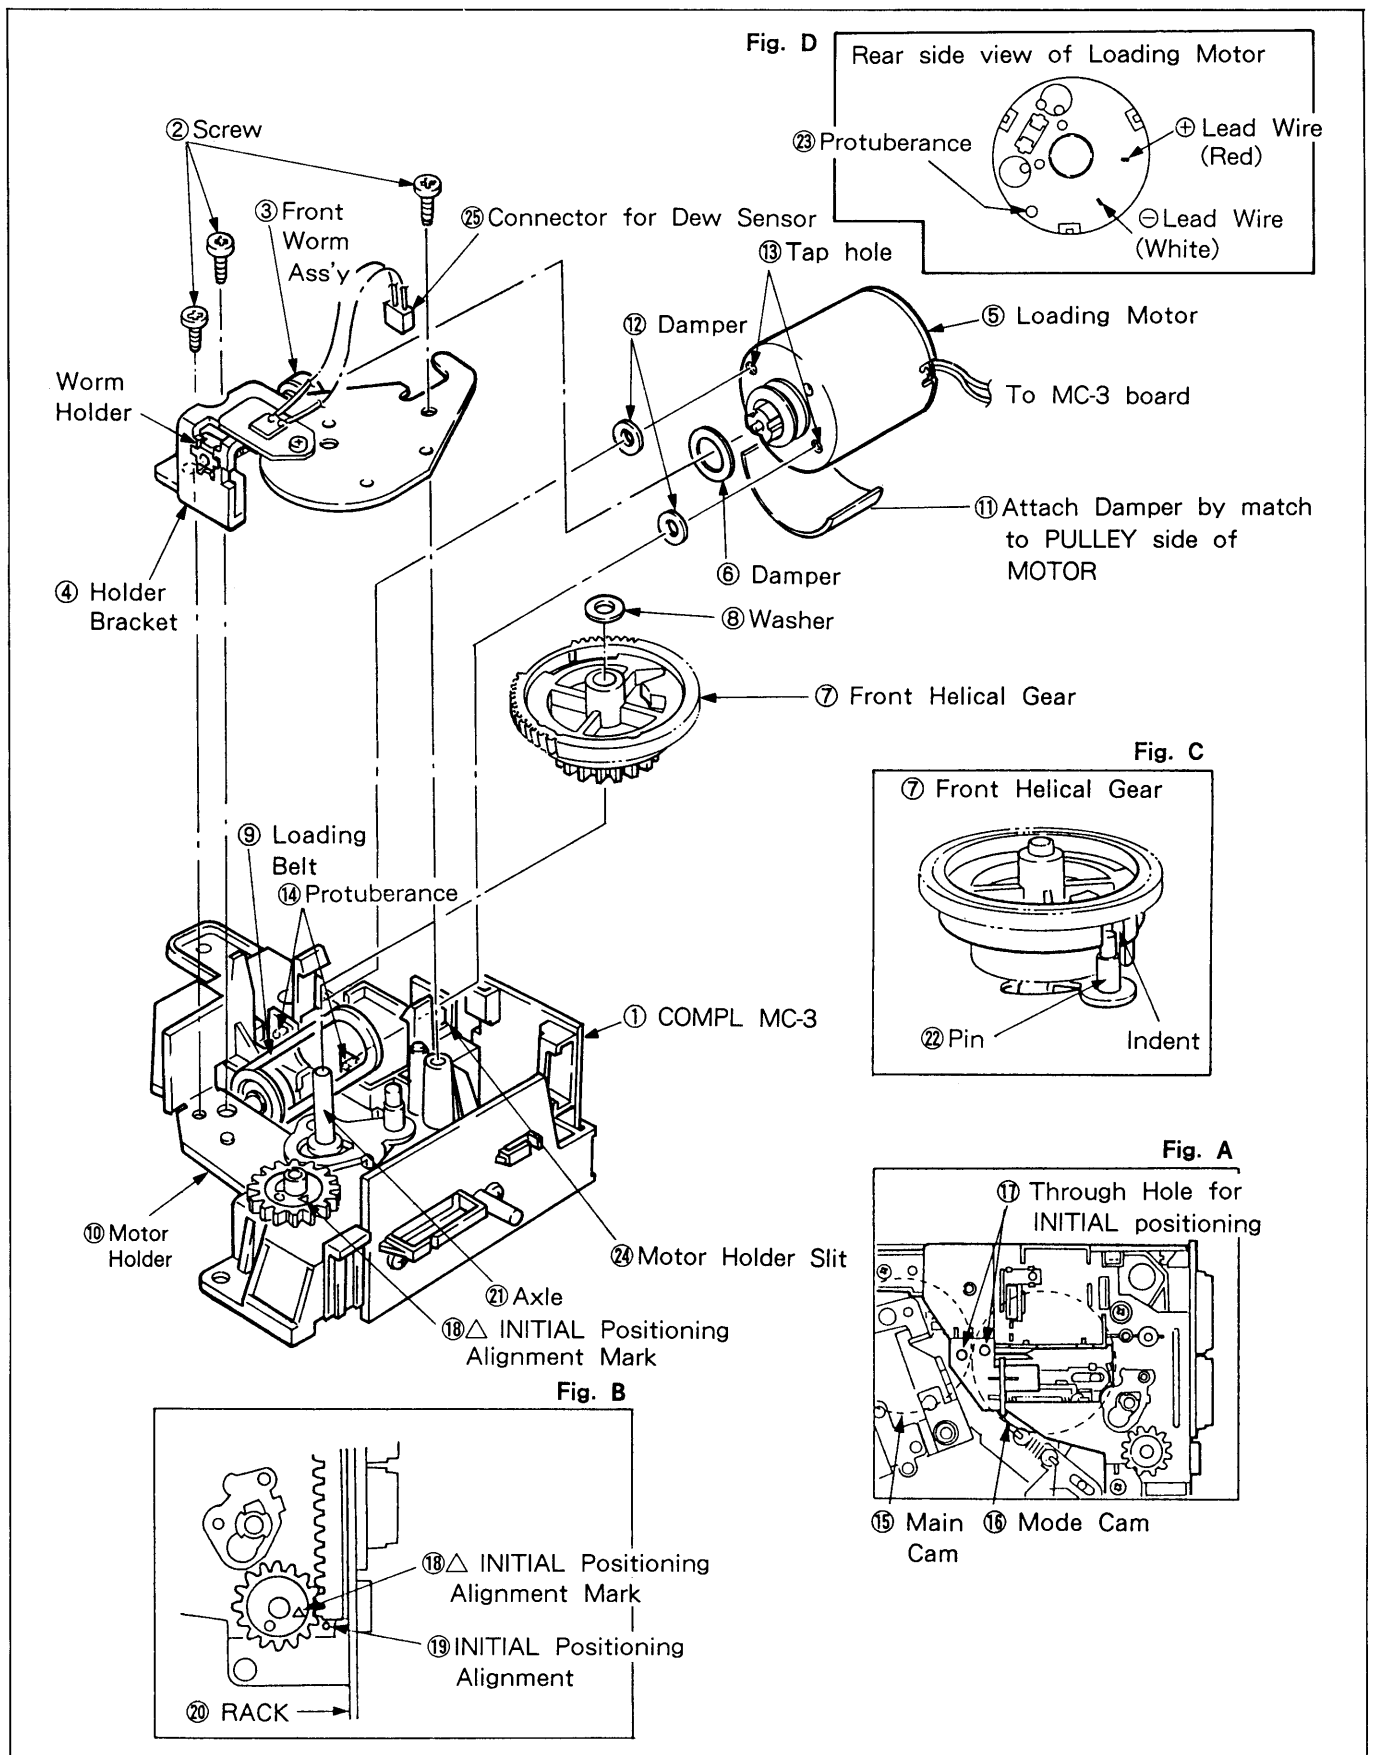

Fig. 5-3-2. Loading Motor
5-3-2. Loading Motor (Refer to Fig. 5-3-2.)
- 2) Solder the lead wire from the MC-3 board to LOADING MOTOR ⑤ terminal. (Solder the red lead wire to the positive terminal side.)
- 3) Hang LOADING BELT ⑨ on the pulley.
- 4) After hanging BELT ⑨ on the pulley, confirm that the mechanism unit is in the initial mode. The initial mode is indicated by Fig. A of Fig. 5-3-2., and is the position in which INITIAL POSITIONING ALIGNMENT HOLES of MAIN CAM ⑰ and MODE CAM ⑱ are lined up with THROUGH HOLE ⑲ of MOTOR HOLDER. If the initial mode is not selected, adjust with MODE SELECTOR (VHJ-0050).
- 5) As shown in Fig. B, confirm the positions of the △ POSITIONING ALIGNMENT MARK on FRONT LOAD GEAR ⑲ and INITIAL MARK ⑳ position of MOTOR HOLDER and the position relationship of CASSETTE HOLDER RACK ㉑.
- 6) Apply a light coat of grease to the entire sides of AXLE ㉒ and FRONT HELICAL GEAR ⑦.
- 7) Attach FRONT HELICAL GEAR ⑦ and WASHER ⑧ to AXLE ㉒. As shown in Fig. C, FRONT HELICAL GEAR ⑦ is attached so that the indent on the side is inside PIN ㉓ of FRONT LEVER ASS'Y.
- 8) Attach DAMPER ⑥ to LOADING MOTOR ⑤ pulley.
- 9) HOLDER BRACKET ④ is attached by engaging FRONT WORM ASS'Y ③ with LOADING MOTOR ⑤ pulley, and held in place with three screws ②.
- 10) Attach the connector of DEW SENSOR ㉔ to the MC-3 board ① and return the mechanism to the eject completion using MODE SELECTOR.